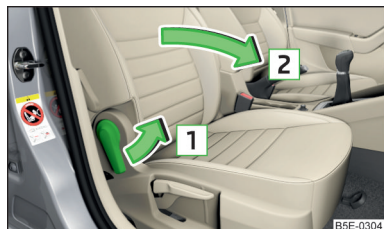

Fig. 75
- Place the lever in position **1** » Fig. 75.